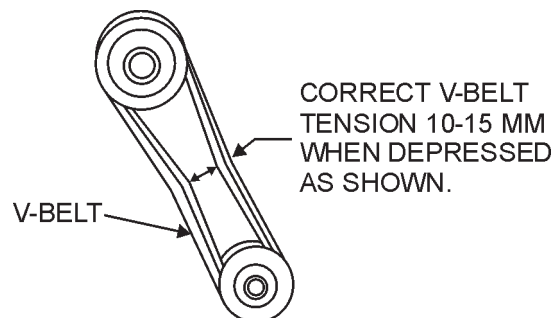

Figure 10. V-Belt Tension
- The V-belt tension is proper if the V-belt bends 10 to 15 mm (Figure 10) when depressed with finger at midway between the clutch and vibration pulley shafts.